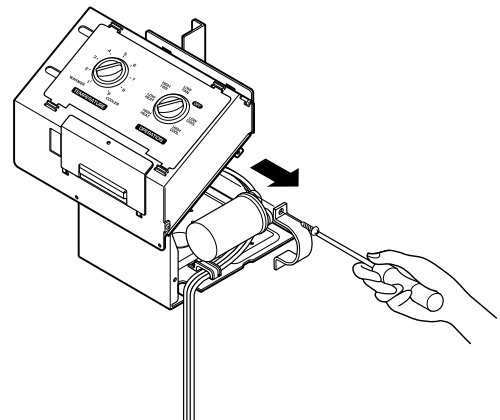

Figure 11
2. Remove 1 screw and disconnect the leads which connected to the box type capacitor. (See Fig. 11)
3. Remove 1 screw and the clamp which fastens the can-type capacitor. (See Fig. 11)